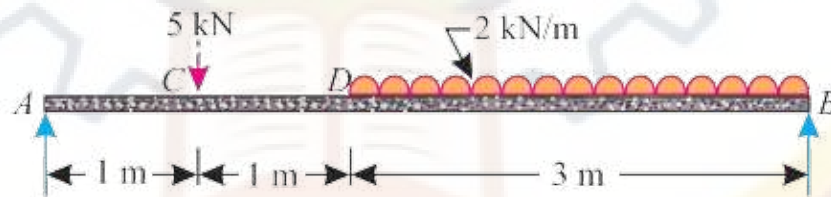

Figure 5
14. (a) Find the support reactions for the beam loaded as shown in Figure 5. (7 Marks)